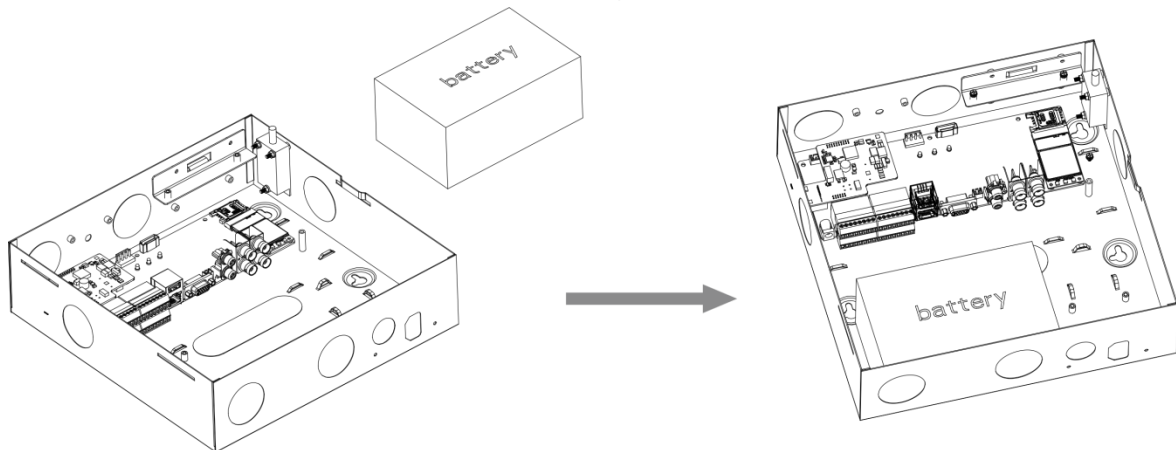

Figure 2-7
Step 1. Place battery in the case, position as in Figure 2-7.